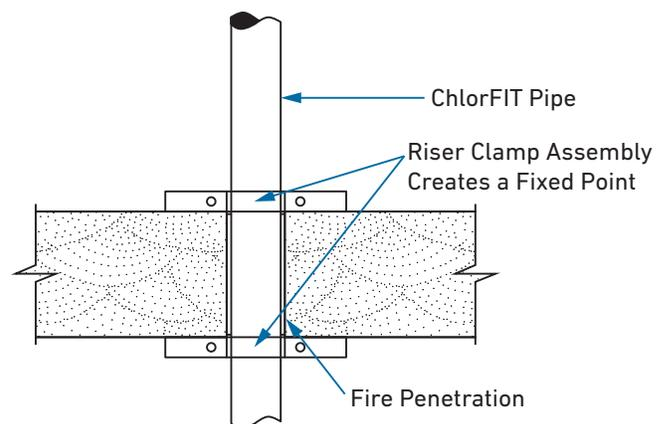

Figure 5-1: Riser clamp installation
- Install riser clamps on both sides of the floor on even or odd floor numbers with a single riser clamp alternating on the floors in between. See **Figure 5-1**.